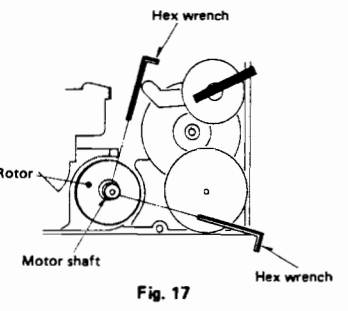

Fig. 17
9. With a hex wrench (0.71mm: HOZAN W-100), remove the 2 screws securing the rotor and the motor shaft (Fig. 17).